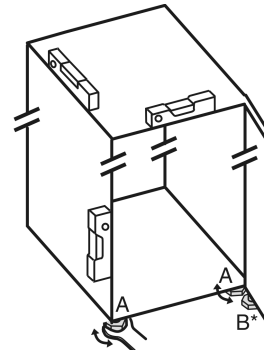

Fig. 5
- ▶ Unscrew the adjustable feet Fig. 5 (A) using the open-end wrench provided and a spirit level until the appliance is firmly aligned and level.
- ▶ Unscrew the adjustable foot *Fig. 5 (B)* at the swap bearing block using the open-end wrench provided until it rests on the floor.
- ▶ Turn the adjustable foot *Fig. 5 (B)* another 90°.